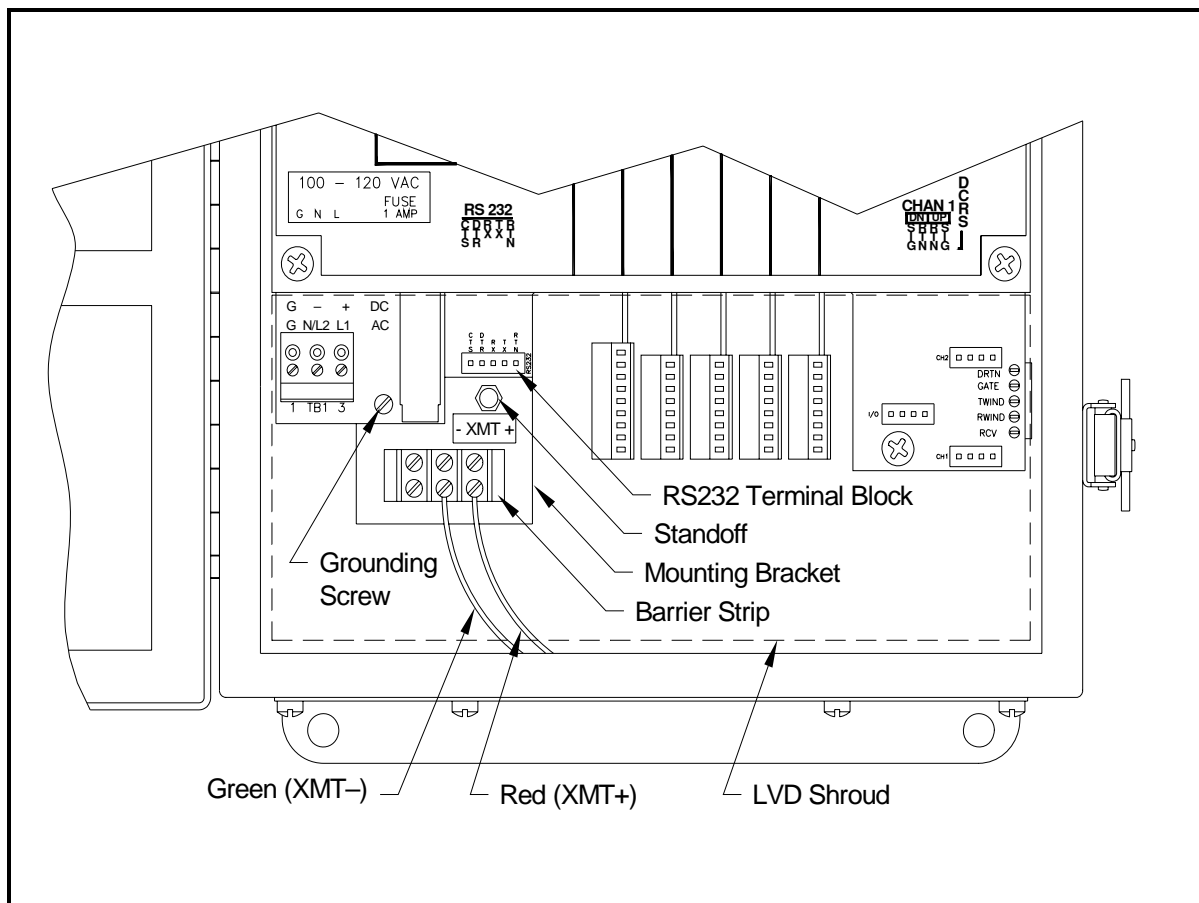

Figure 6-1: Interface Converter Mounting
A special bracket containing the serial interface converter and a three-terminal barrier strip is mounted inside the Model GC868, just below the RS232 terminal block (see Figure 6-1 below). The standard RS232 terminal block is wired to the input of the serial interface converter, and the RS-485 output of the serial interface converter is wired to the barrier strip.
Standard factory wiring of the RS485 serial interface is configured for point-to-point wiring. That is, a single Model GC868 may be wired directly to a single personal computer. To connect the RS485 serial interface, refer to Figure 6-1 on page 6-4 and complete the following steps:
3. Remove the serial interface converter *mounting bracket* by removing the standoff located just below the RS232 terminal block and the grounding screw to its left (see Figure 6-1 on page 6-4).